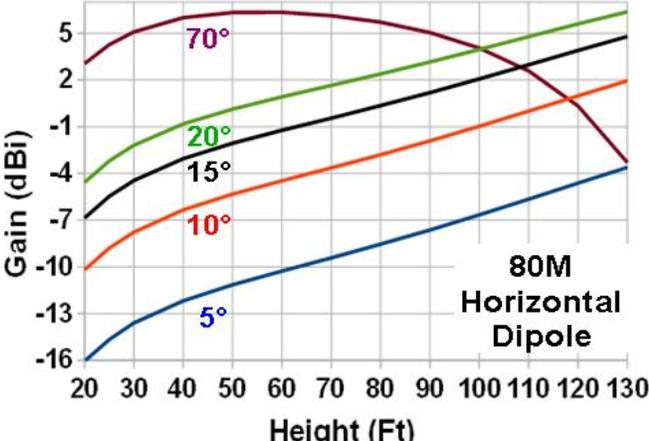

Fig 36 –Data From Fig 34, Fig 35 Re-plotted
**Debunking The NVIS Myth** Fig 36 clearly shows that you don't need a ground-hugging dipole for NVIS (high-angle paths to work nearby stations). Indeed, the optimum height for NVIS is  $0.22\lambda$  (60 ft on 80M), and an antenna at  $0.33\lambda$  (90 ft on 80), is only 1 dB less than optimum. And, as we've already learned, the higher antenna is 2.5 dB louder at the lower angles needed to work distant stations. Even when the antenna is raised to 120 ft, high angle radiation is only 3 dB below maximum, while the 120 ft antenna is 3 dB louder at low angles than the 90 ft antenna! On 40M, 30 ft is near optimum for NVIS, 45 ft is only 1 dB down, and 60 ft is only 3 dB below optimum. Table 1 summarizes the result by band.